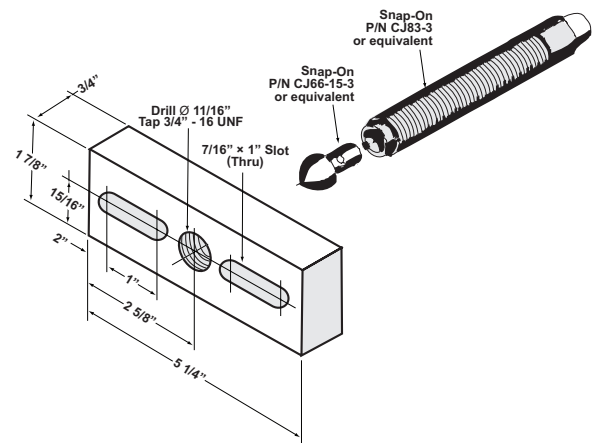

Figure 8-1 – Bar Puller
5. Attach the bar pullers as shown in **Figure 8-1** to each bearing bore and pull end plate.